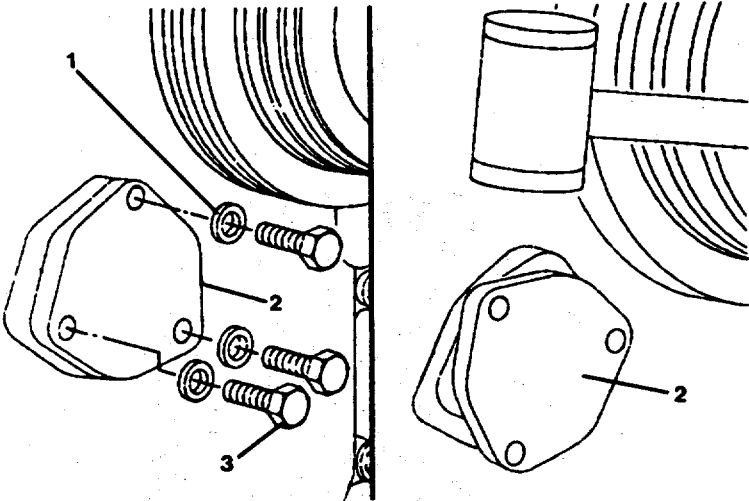

FIGURE 3-48. Bearing Support.
- (1) Remove the three cap screws (3, FIGURE 3-48) and lockwashers (1) from the support (2).
- (2) Use a rubber or plastic hammer to rotate the bearing support (2) approximately 60 degrees.
- (3) Use a suitable pry bar to remove the bearing support (2) from the gear cover.